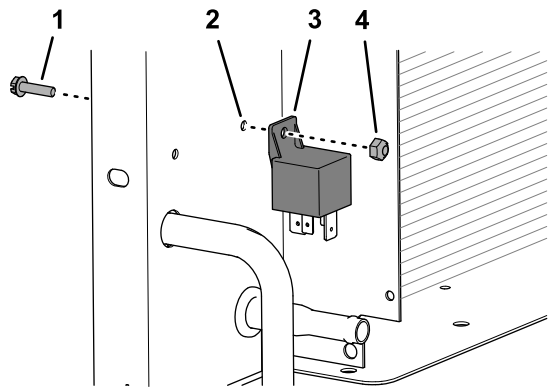

Figure 24
- Remove the flange-head screw (#10 x 3/4 inch) and locknut (#10) that secure the glow plug relay to the radiator, and remove the relay (Figure 24).